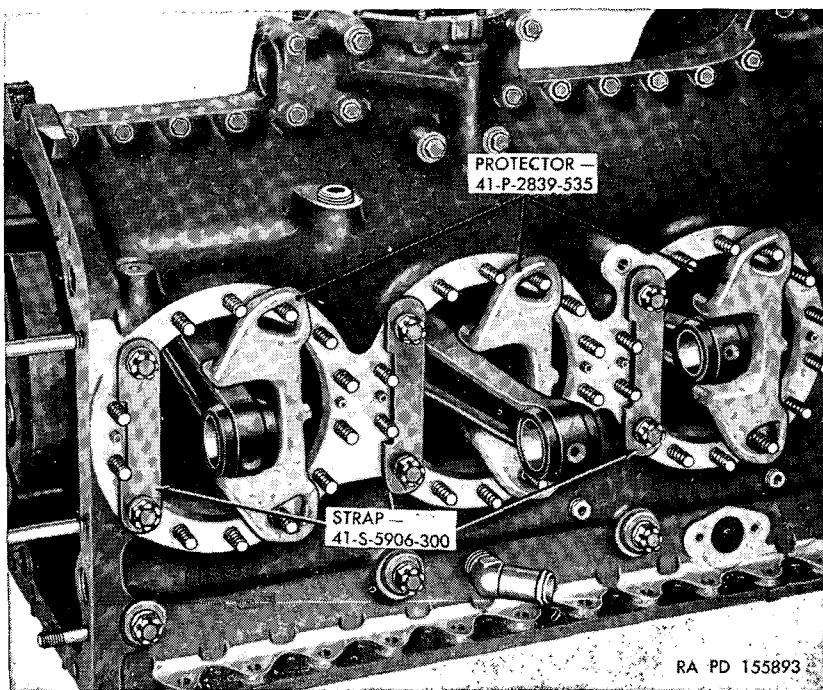

Figure 23. Crankcase cylinder pad protectors.
*Note.* Before removing the cylinder from the piston, place a connecting rod protector 41-P-2839-535 (fig. 23) on the rod to prevent possible damage to the cylinder mounting pad. Then remove the cylinder.
*Note.* Pistons for No. 1 and No. 2 cylinders will be at top center together. Therefore, both cylinders can be removed without turning the engine. Also, No. 3 and No. 4 pistons will be together and No. 5 and No. 6 pistons will be together. If the crankshaft binds after some of the cylinders are removed, replace the slotted nuts on the crankcase cross bolts (H), (fig. 65), using crankcase cross bolt straps 41-S-5906-300 (fig. 23) or large washers to protect the machined surfaces of the cylinder mounting pads and tighten the nuts enough to release the crankshaft binding.